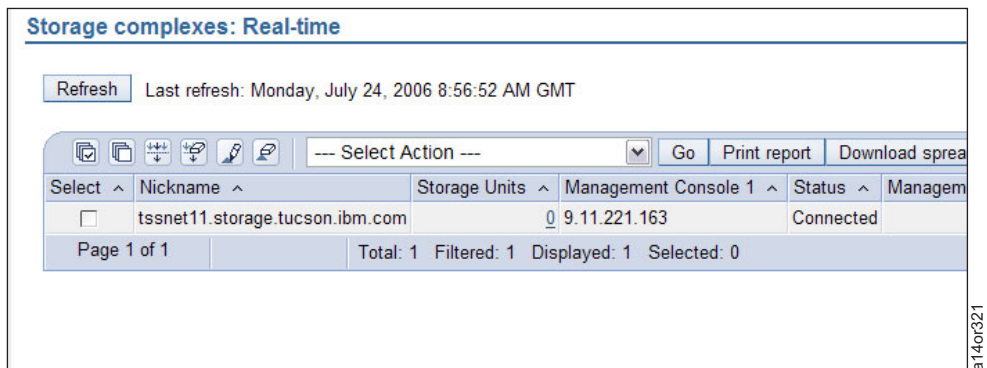

Figure 3-90. Storage Complexes : Real-time Screen
6. From the resulting list (not shown), select **Manage hardware**, then select **Storage complexes** from that resulting list. Figure 3-90 displays.
8. Enter into the "Management console 1 IP address" field the TS7700 IP Address that was used for TSSC attachment. This address should be in the form '172.31.1.x'. Select **OK**. This returns you to Figure 3-90 on page 3-70. Your storage complex should now be listed. For all further DS6000 service information including firmware upgrade, refer to the DS6000 InfoCenter.